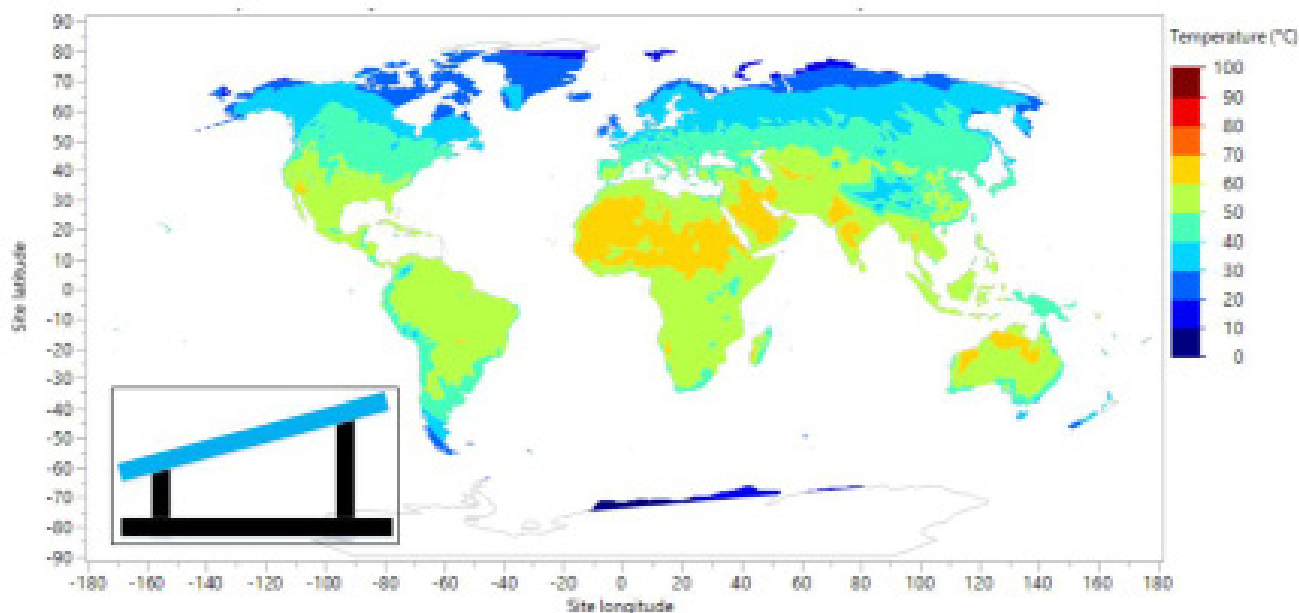

Figure A.2 – 98th-percentile temperature for an open-rack, or thermally unrestricted
- The operational temperature is influenced by the minimum distance between the module bottom and the surface of roof or wall. And the distance is related to the climate. Figure A.2 shows climate area distribution of the Köppen climate types for the period from 1901 to 2010. In any climate regions except for BWh area, the minimum distance should be 10.2 cm (4.0 in). If you want to determine a specific distance on your project located in the BWh climate area, please contact EDF ENR PWT's technical service team. For more information about Köppen climate types, please refer to <http://hanschen.org/koppen>.